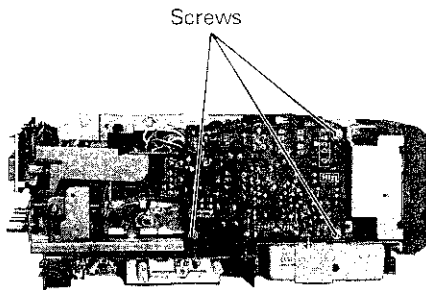

Fig. 4-12
1. Remove the three screws on the printed circuit board as shown in Fig. 4-12.